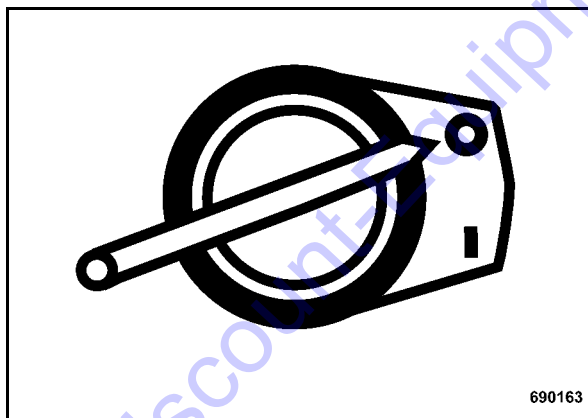

Fig. 30
- Turn the ignition switch (Fig. 30) to position "0".